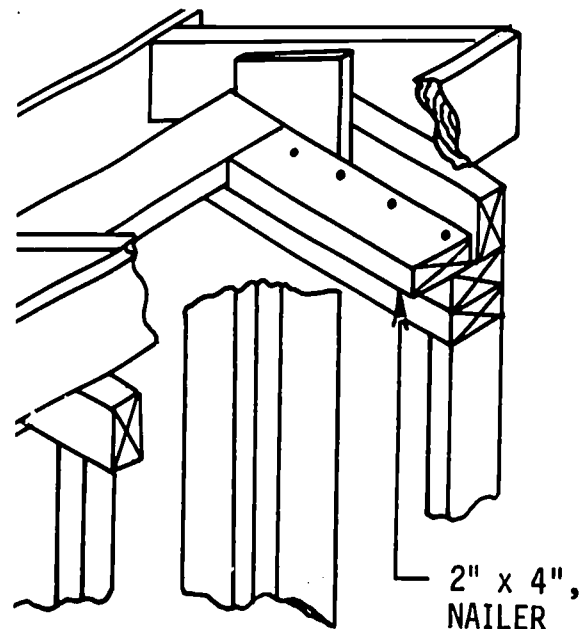

Fig. 51-13. Nailer Installed
6. The 2" x 4" board will be installed in the short wall above the double plate. Place it in position as shown in Fig. 51-13. If it projects beyond the end of the plate, mark and cut it to length.
7. Nail the board in place as shown in Fig. 51-13. (Note nail placement.) This board, called a *nailer*, will be used to support the ceiling when it is installed.